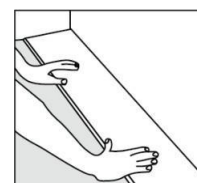

Figure 1
- Starting from the **left** with the tongue facing the wall, carefully place the first board in place (**Figure 1**).